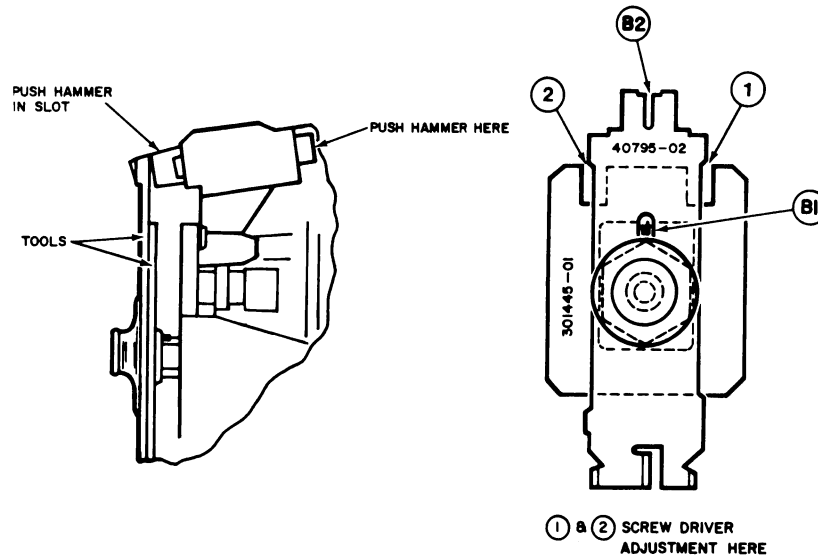

Figure 5-11. PRINT WHEEL TO HAMMER ALIGNMENT
Refer to Figures 5-11 and 5-1.
- 3) Install Adjustment Tool 301445-01 over the nut on the front of the print wheel hub as shown in Figure 5-11.